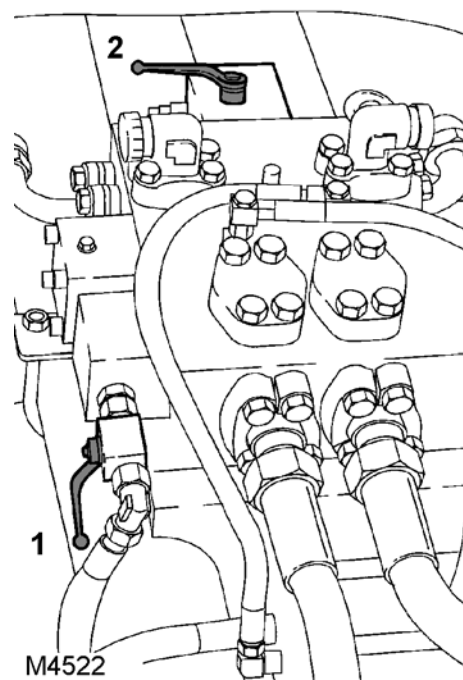

Fig. 506 Move ball valves into position
2. Move both ball valves (1+2) (**Fig. 506**) on the pump kit, for example, into the "pressure control" position (**Fig. 507**) so that the pistons come to a standstill.